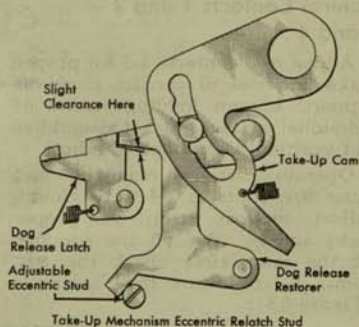

Figure 30
Adjust the stud to obtain a slight relatching clearance between the dog release latch and the dog release restorer (see Figure 30).
9. Dog Release Latch Eccentric Stud (Figure 30).